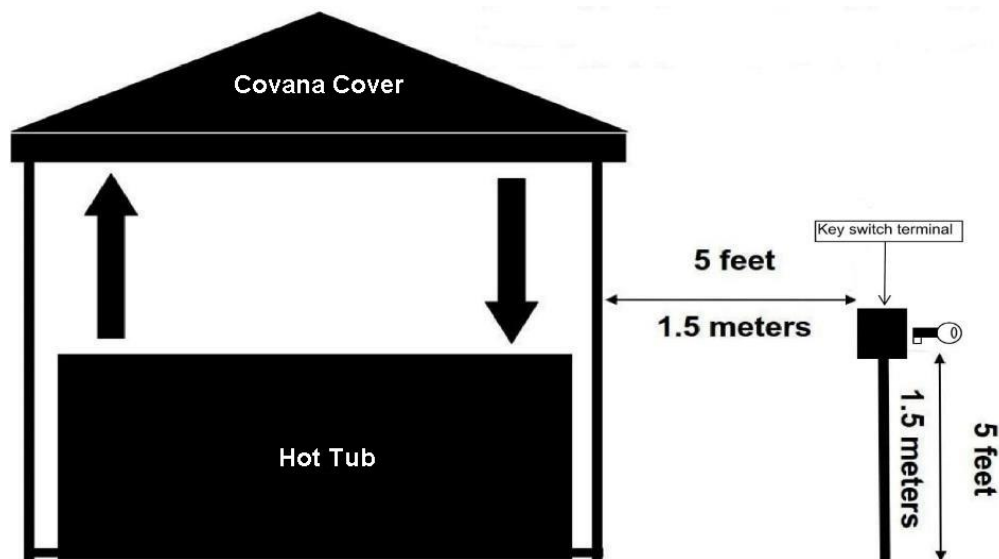

Figure 22
- The key switch must be permanently mounted and located 5 ft (1.5 m) away from the hot tub and 5 ft (1.5 m) above the deck or ground level. This ensures the user has a clear view of the COVANA cover when operating it. Furthermore, the key switch terminal should be located in a place where no water downpour or debris could fall on it. (Figure 22)